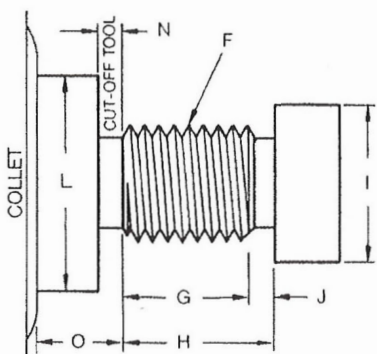

Figure 1
3. Work Specification (reference Figure 1)